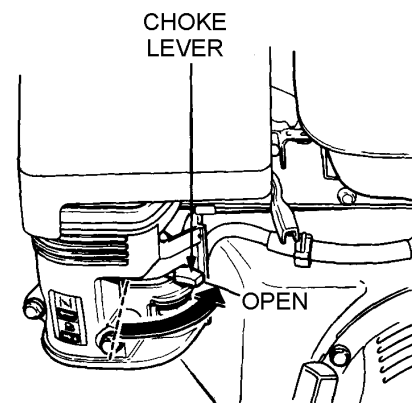

Figure 9. Engine Choke Lever (Open)
4. Place the choke lever (See Figure 9) in the "OPEN" position if starting a warm engine or the temperature is warm.